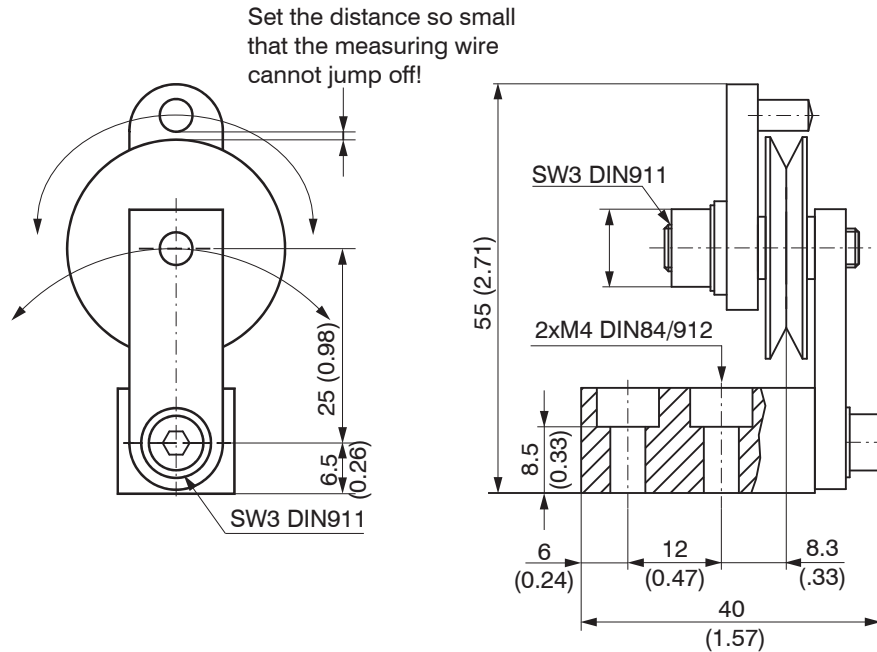

Fig. 6 Deflection pulley TR1-WDS with adjustable mounting foot, dimensions in mm, rounded off
- TR1-WDS Deflection pulley with mounting foot, see Fig. 6